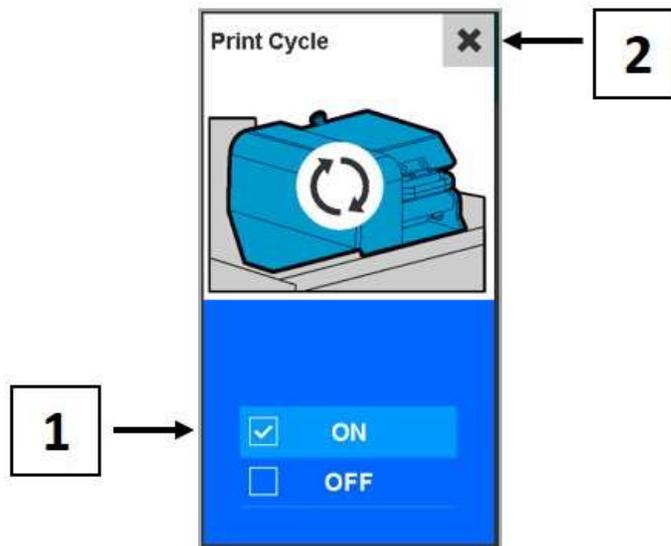

FIGURE 3-60. PRINT CYCLE EDIT WINDOW
2. Tap the ON checkbox to enable the option (Figure 3-60, item 1).